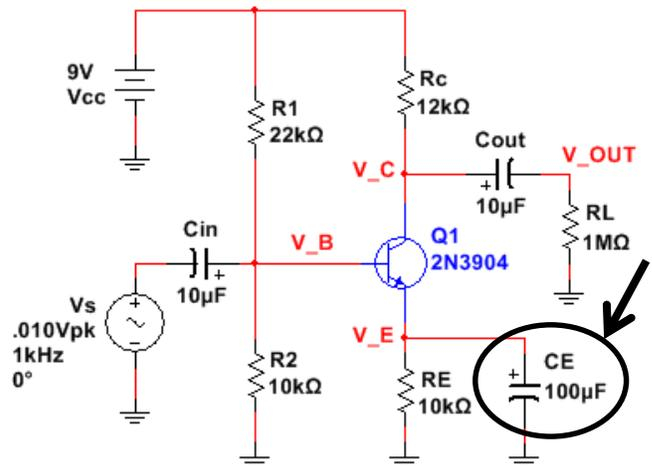

Fig. 3: voltage gain can be significantly increased by adding a 100 uF emitter bypass capacitor.
- Step 2a: Add a 100 uF capacitor in parallel with the $R_E = 10$ kohm resistor (see Fig. 3).